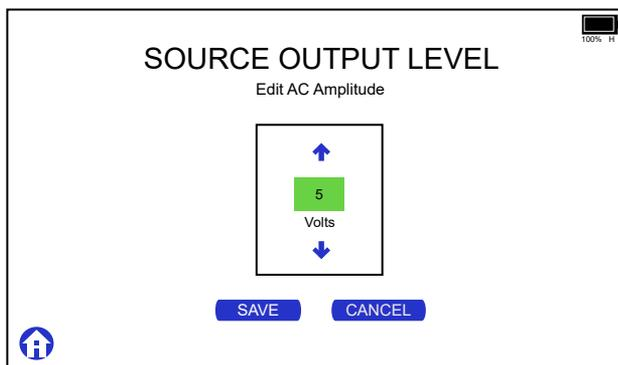

Figure 13: IRIG-B Mod. Source Voltage Level Configuration Screen
2. Touch Variable button to open the Edit AC Amplitude menu – see Figure 13. Voltage range is 1 Vac to 10 Vac.